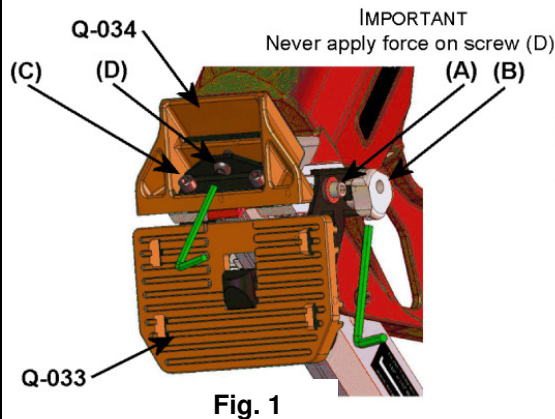

Fig. 1
3	Engage the Allen wrench in knob (B) as shown in (Fig. 1); rotate to move the shoe base up or down. Note that knob (B) has a rotation range of only 1/2 turn. Do not apply force when a limit is reached.